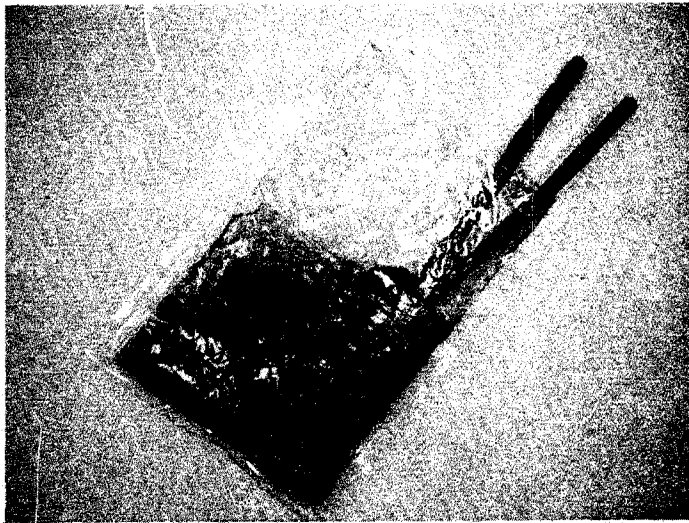

Figure 19
5.05 Place the butt spliced B Service Wires, as prepared under paragraphs 3.05 and 4.09 to 4.11 inclusive, into the open resin filled plastic bag. Slide the splice up and down slowly in the resin to insure complete penetration and removal of all air pockets. Force the wires and resin completely to one side of the bag and fold the emptied side over as shown in Figure 19 and 20. Visually inspect the encapsulation (the resin is transparent) for air pockets and also to ascertain the location of the B Wire Connectors. In general, the B Wire Connectors should be completely enveloped in resin and at least 1/2 inch from the end of the plastic bag.